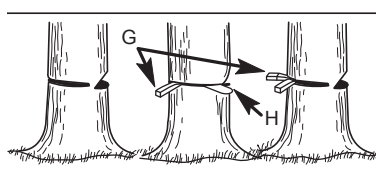

FIG. 2
- Use wooden or plastic wedges (G fig.2) to prevent the bar or chain from becoming entangled in the trunk.